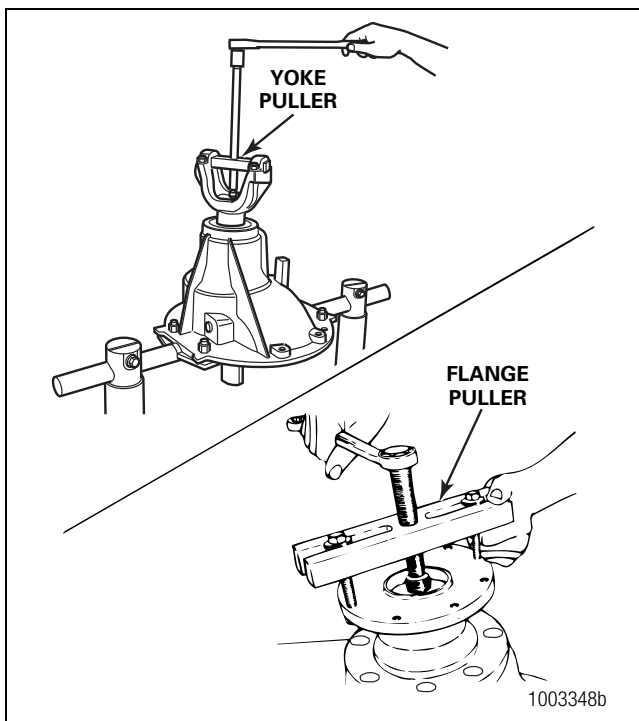

Figure 3.21
4. Remove the yoke or flange from the drive pinion. If the yoke or flange is tight on the pinion, use a puller. Figure 3.21.